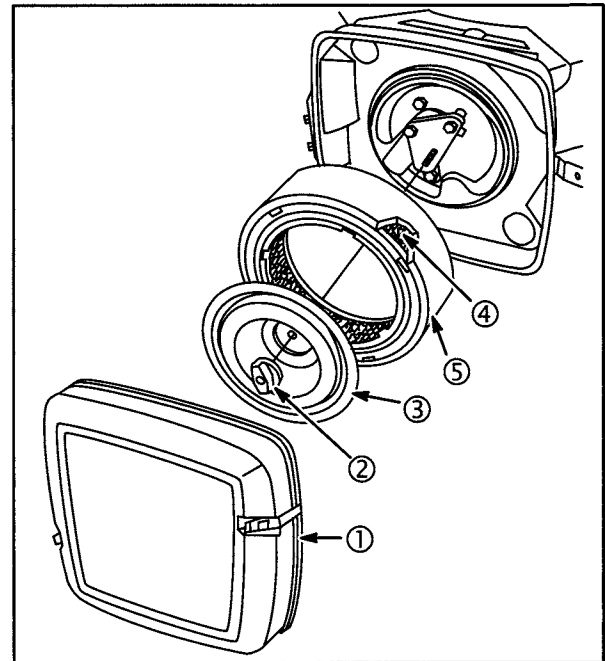
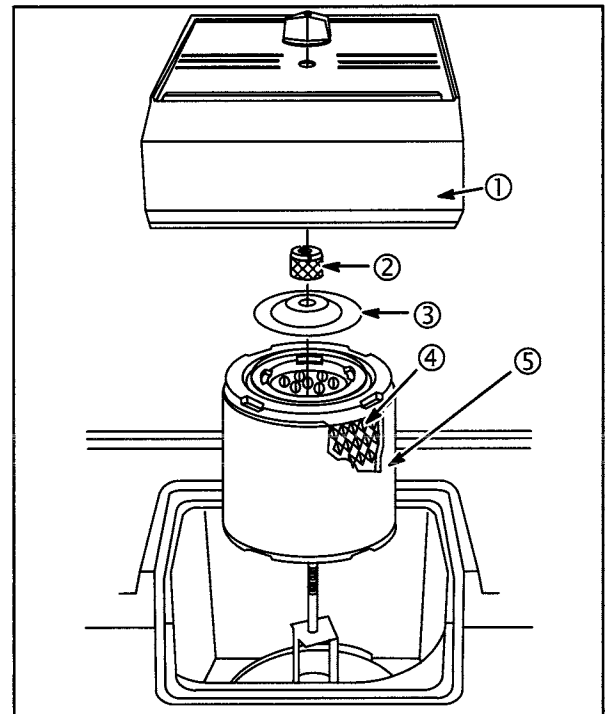

Fig. 1
Fig. 2
1. Remove cover (1), knob (2), plate (3), and air cleaner cartridge (4) with pre-cleaner (5), **Fig. 1** or **Fig. 2**.